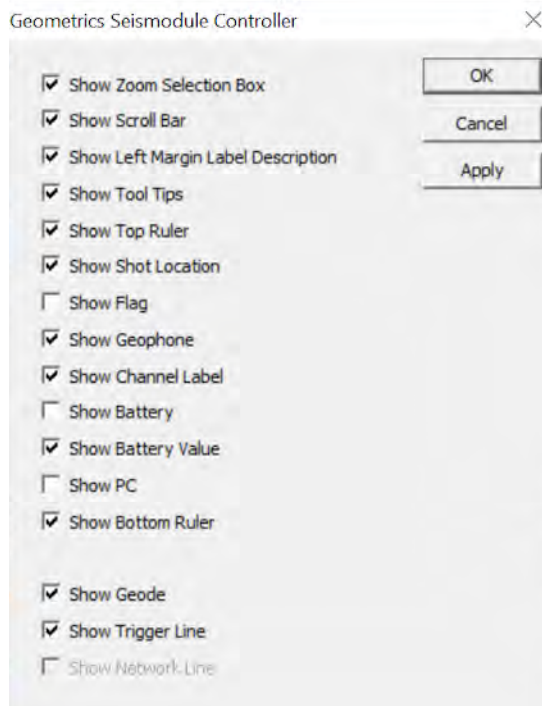

Figure 9. Checkbox selection in Geometry Toolbar Settings
- b. Uncheck “Show PC,” “Show Battery,” “Show Flag,” and any others you think are unnecessary (Fig. 9).